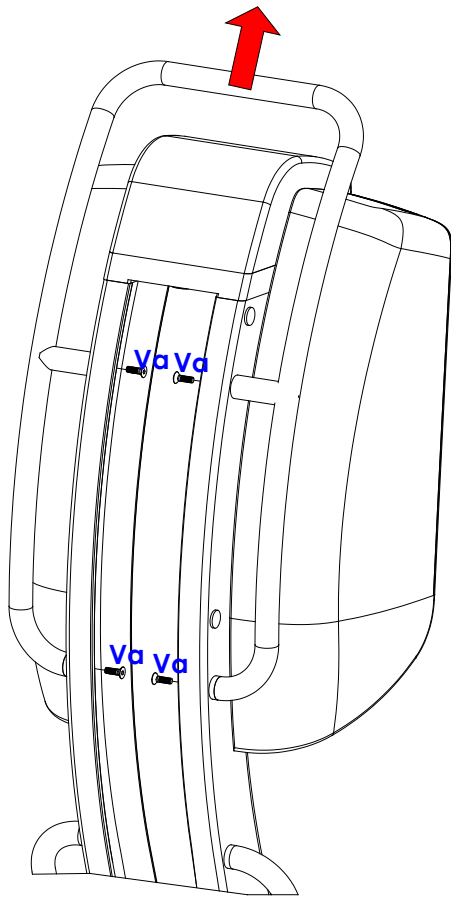
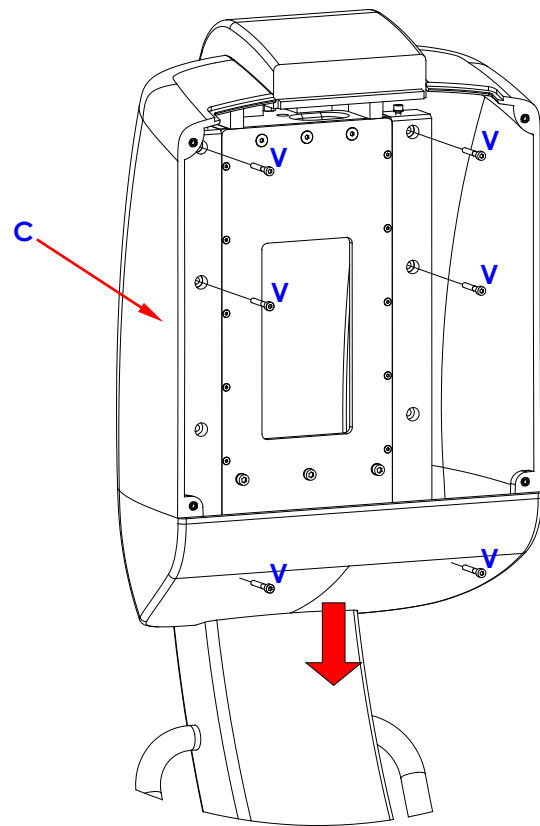

Fig. 2a
Fig. 2b
- Undo the 4 screws (Va). (In Fig.2a is shown the 21x21 FPD version).
- Remove the handle (M).
- Undo the 6 screws (V). (In Fig.2b is shown the 21x21 FPD version).
- Extract the cover (C).